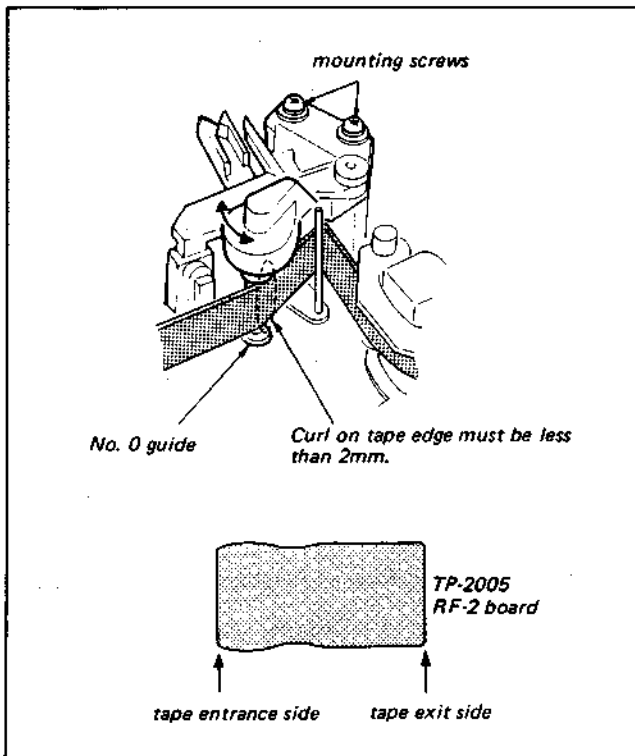

Fig. 3-30. Position adjustment of No.0 guide section assembly mounting
- (ii) Turn the TRACKING control knob so that the RF waveform at TP2005 on RF-2 board is 2/3 of its maximum level. (See Fig. 3-30.)
- (iii) Turn the No.0 guide shown in Fig. 3-30 fully counterclockwise (↺), then clockwise until the point where the RF waveform at the exit section becomes flat with small fluctuation, and tighten the mounting screws.